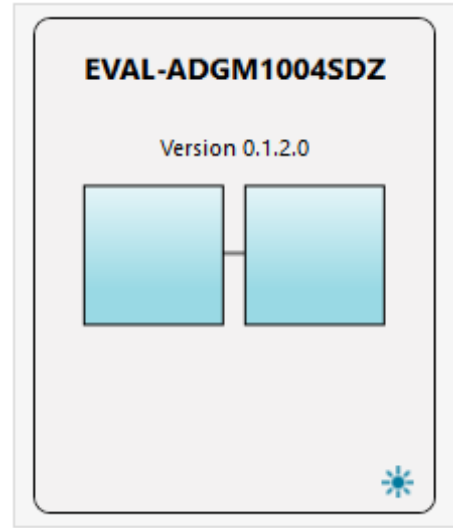

Figure 3. Evaluation Board View of the EVAL-ADGM1004SDZ Plugin
6. Double click the EVAL-ADGM1004SDZ plugin to open the EVAL-ADGM1004SDZ view in Figure 3.